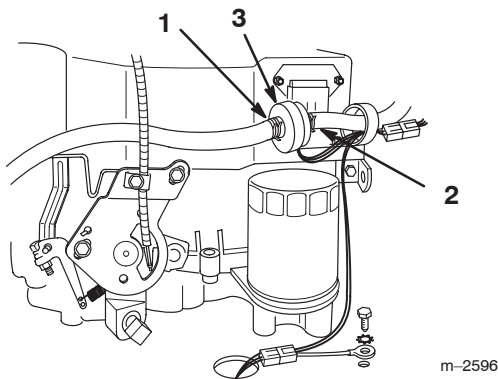

Figure 28
3. Squeeze the ends of the hose clamps together and slide them away from the filter (Figure 28).